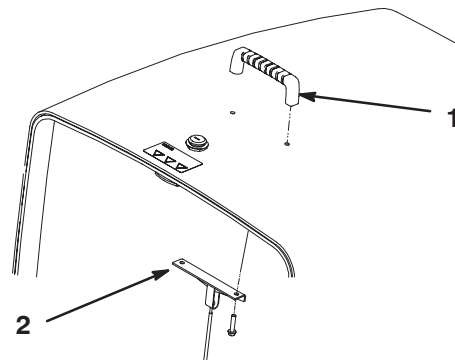

Figure 4
2. Mount the handle and the cable bracket to the hood with (2) screws (Fig. 4).